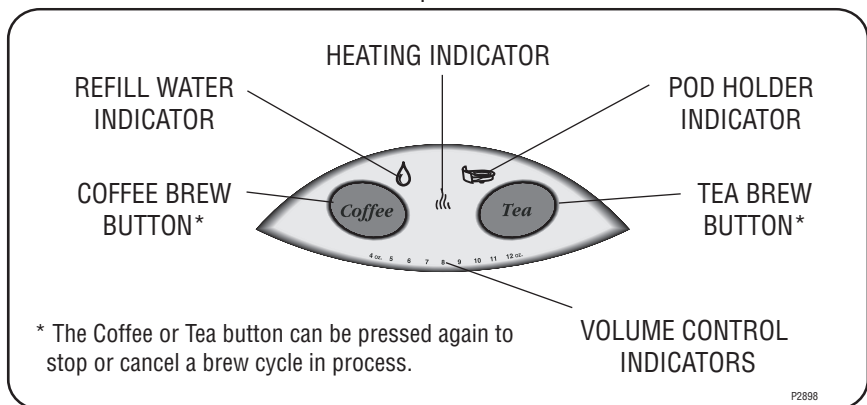

FIG 2. Control Panel
- **CONTROL PANEL** - Controls for brewing coffee or tea and various indicators are located on the control panel. (FIG. 2) See specific definitions below.